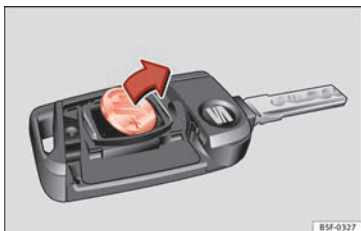

Fig. 128 Vehicle key: removing the battery
- Extract the battery from the compartment using a suitable thin object » Fig. 128.
- Place the new battery in the compartment as shown » Fig. 128, pressing in the opposite direction to that shown by the arrow » ②.